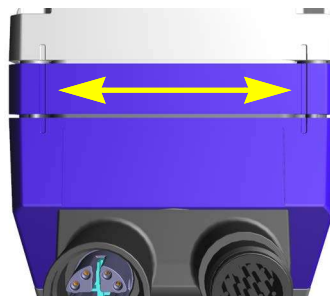
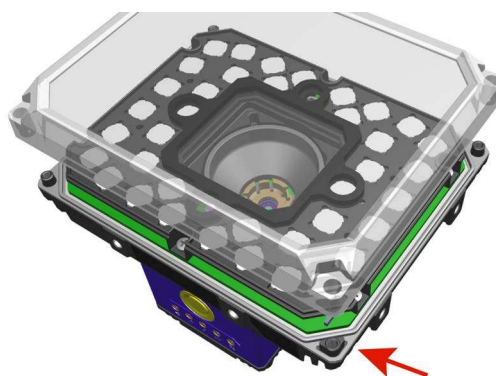

Figure 75 - Aligning the cover (14 LEDs model)
Figure 76 - Aligning the cover (36 LEDs model)
**CAUTION:** The cover has a predefined mounting direction (see Figure 75 and Figure 76). For the 14 LEDs model (Figure 75), make sure to align the identification grooves to the right side. For the 36 LEDs model (Figure 76), the illuminator has one pin different from the other three: make sure to align this special pin with the correspondent cover seat.